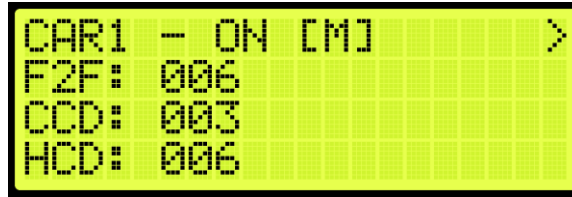

Figure 273: Dispatching Timers Status
12. From the Dispatching Timers Status (See Figure 273), press the right button.
12. From the Dispatching Timers Status (See Figure 273), press the right button..